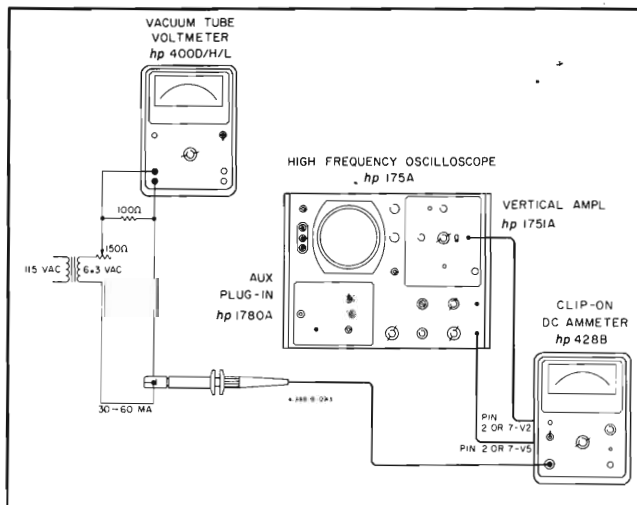

Figure 5-5. Detector Phase Adjustment Setup
a. With Q1 still grounded connect the vertical input of an oscilloscope to pin 7 of V2 and the horizontal input to pin 7 of V5. Clip Model 428B probe around wire carrying 5 ma ac (0.5 volt ac across 100 ohms monitored by an external meter, see figure 5-5).
<p>Step 4. OSCILLATOR FREQUENCY.</p> <p>Connect electronic counter, such as $\text{\textcircled{hp}}$ Model 5212A/5512A Electronic Counter, to one side of T3 secondary--either orange-white or green-white wires at top of 428B-75B (center) terminal board. Frequency should be 40 kc \pm200 cycles. If not, pad C52 to set the frequency. Remove counter.</p> <p>Step 5. OSCILLATOR LEVEL.</p> <p>Connect ac voltmeter, such as $\text{\textcircled{hp}}$ Model 400D/H/L, to transformer T5 side of either R94 or R95 (usually green and green-white wire) on terminal board 428B-75 E) board furthest from front panel). Level should be 7.6 to 8.4 volts rms. If not, adjust oscillator level control R92 to set level to 8 volts rms. Remove meter.</p> <p>Step 6. DETECTOR GATE.</p> <p>Connect ac voltmeter, such as $\text{\textcircled{hp}}$ Model 400D/H/L to pin 2 or 7 of V5. Adjust L7 for peak. Voltage should be 3.5 to 4.7 volts rms. If not, replace V5. Remove voltmeter.</p> <p>Step 7. RECHECK OSCILLATOR LEVEL.</p> <p>If L7 was adjusted in Step 6, repeat Step 5.</p> <p>Step 8. SETUP FOR ALIGNMENT OF TUNED AMPLIFIER.</p> <p>Connect an ac voltmeter, such as the $\text{\textcircled{hp}}$ Model 400D/H/L to pin 2 or 7 of V2. Set 400D/H/L to 1 volt range. Clip 428B probe around wire carrying 35ma rms ac monitored by an external meter as appears in the ac generator portion of figure 5-5. Adjust 150 ohm potentiometer for 3.5 vac across the 100-ohm resistor. Set 428B RANGE switch to 100 MA. Keep this setup for the next three steps.</p> <p>Step 9. INPUT ALIGNMENT.</p> <p>Adjust C2 (input tune) on smallest terminal board (428B-75D) for a maximum reading on 400D (approximately 0.1 volt).</p> <p>Step 10. INTERSTAGE PRIMARY ALIGNMENT.</p> <p>Connect a 0.0082 μf capacitor across secondary of T1 (green and white/orange leads). Adjust bottom (primary) slug of T1 for maximum 400D/H/L reading (0.01 volt range) and lock slug. Remove capacitor but leave rest of setup.</p>	<p>Step 11. INTERSTAGE SECONDARY ALIGNMENT.</p> <p>Connect a 0.0082 μf capacitor across primary of T1 (red and blue leads). Adjust top (secondary) slug of T1 for maximum reading of 400D/H/L (0.01 volt range) and lock slug. Remove capacitor and voltmeter. Keep the base of Q1 grounded by means of the clip-lead.</p> <p>Step 12. DETECTOR PHASE ADJUSTMENT.</p> <p>Clip a 390 ohm resistor across the "FEEDBACK DISCONNECT" terminals. Connect the horizontal input of an oscilloscope, such as $\text{\textcircled{hp}}$ Model 140A/175A, to pin 2 or 7 of V5. Connect vertical input to pin 2 or 7 of V2. Leave 428B probe around wire carrying 35ma ac (3.5 volt ac) across 100-ohm monitored by an external meter (see figure 5-5). Turn 428B to 100 ma range. Turn slug L7 so pattern on oscilloscope looks like a "bow tie" with its knot symmetrical (see figure 5-6A or B). Note that in addition to the top and bottom intersections being in a vertical line, the center section must be free of traces. It is possible to get the top and bottom intersections in a vertical line with traces in the center section, but this is not a correct adjustment. Lock L7. Figure 5-6C illustrates an incorrect adjustment with the top intersection, not over the bottom intersection. Remove 390-ohm resistor.</p> <p>Step 13. DC AMPLIFIER LOOP GAIN.</p> <p>Remove the clip-lead from the base of Q1 and connect a short (6 inch or less) clip-lead across the secondary of T1. Turn Meter Cal. potentiometer R69 to its maximum clockwise position (minimum resistance). Connect a 1500-ohm resistor between pin 2 V6 and pin 4 of V6. Connect ac voltmeter (set to 30 mv range) between pin 2 of V6 and chassis ground. Connect a dc voltmeter in parallel with the ac voltmeter and vary dc voltmeter indication from -0.5 volt to +0.5 volt by adjusting R46 DC Amp. Bal. The ac voltmeter should read less than 25 mv for both the -0.5 and +0.5 volt readings. Zero Model 428B meter with R46. Remove clip-lead, 1500 ohm resistor, and voltmeters.</p> <p>Step 14. NOISE.</p> <p>Turn Model 428B on with no input to probe, feedback still disconnected. Set RANGE switch to 30 MA. In any 5 second period the peak-to-peak swing of the needle should be less than 5 ma. If noise is excessive one of the coils in the head may be open. Remove probe connector from instrument and measure resistance between connector pins. The coils in the probe head are connected in the form of a bridge with each pin connected to a corner. The resistance between any adjacent pair of pins should be about 5 ohms. If not, one of the coils in the probe is probably open. If the reading is ∞ the cable is probably open.</p>